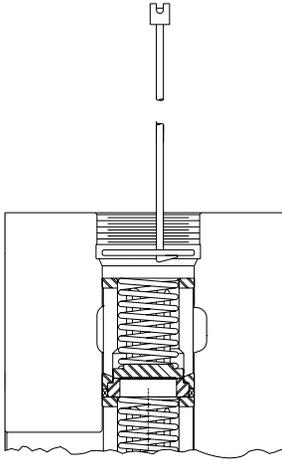

Figure 4
3. Remove cover seal from top of cage with hook on magnetic retriever. (This hook is rough ground at the plant and should be finished to a flat sharp edge to be most effective). (Figure 4, page 36).